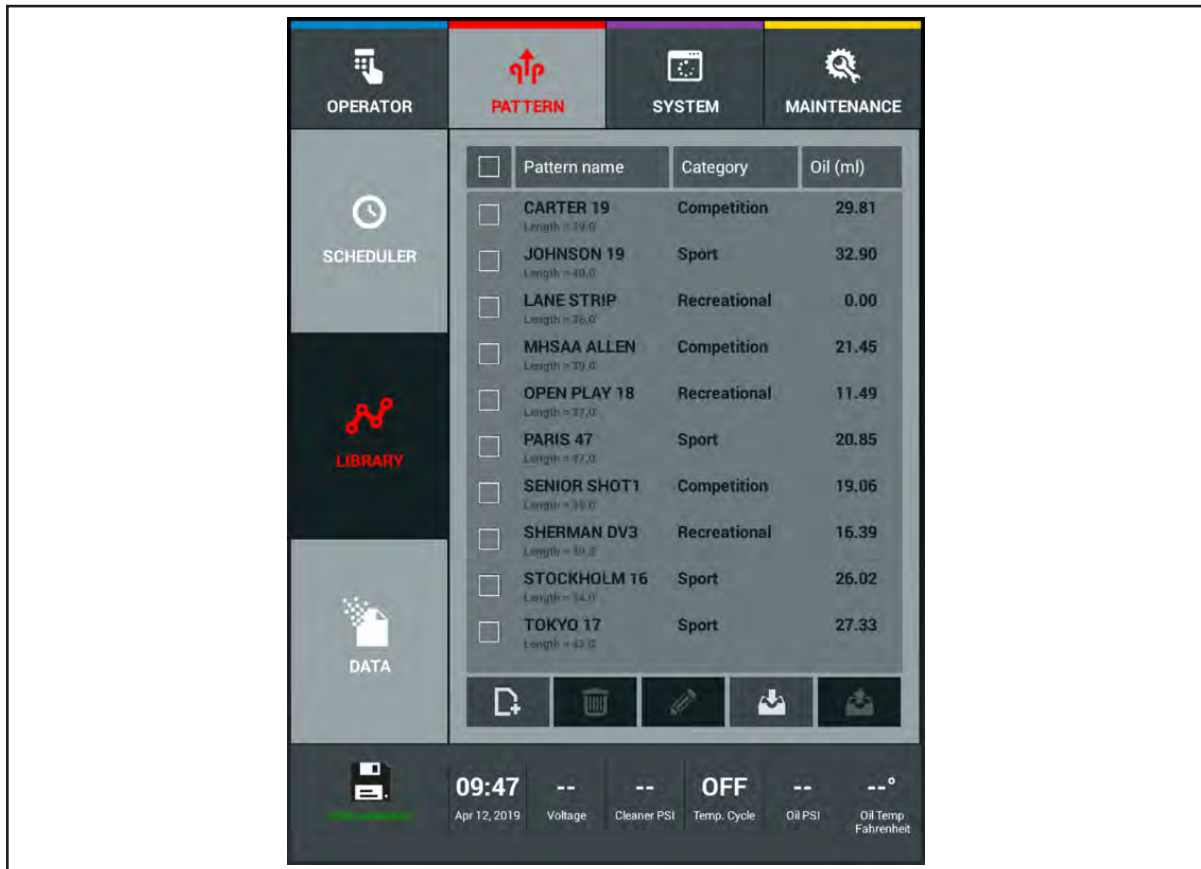

Figure 4-16. USB Directory
3. A directory of file folders on the USB will open. Refer to *Figure 4-16*.